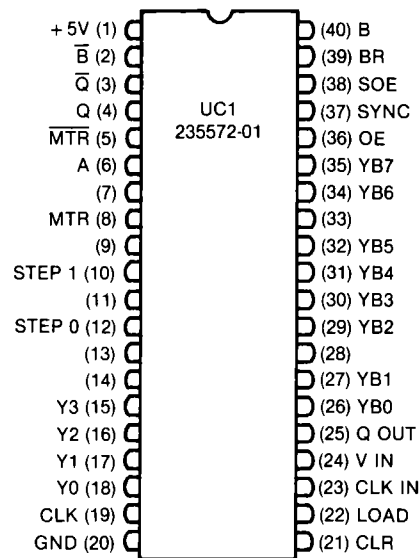

Fig. 7-41. Disk controller integrated circuit, Model 1541.
7.2.9 Encoder/Decoder Electrical Theory (Refer to Fig. 7-41)